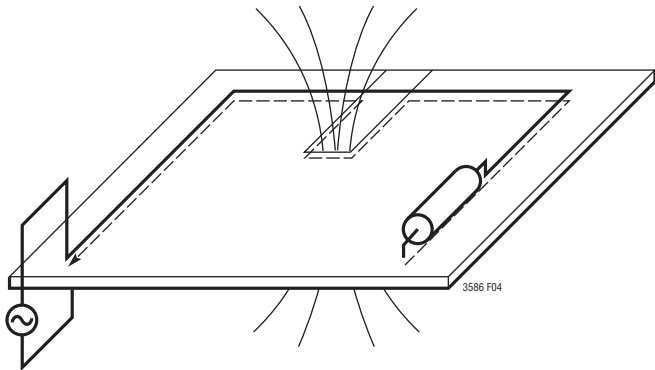

Figure 4. High Frequency Ground Currents Follow Their Incident Path. Slices in the Ground Plane Cause High Voltage and Increased EMI
2. To minimize parasitic inductance, the ground plane should be as close as possible to the top plane of the PC board (Layer 2). High frequency currents in the hot loop tend to flow along a mirror path on the ground plane which is directly beneath the incident path on the top plane of the board as illustrated in Figure 4. If there are slits or cuts or drill-holes in this mirror path on the ground plane due to other traces, the current will be forced to go around the slits. When high frequency currents are not allowed to flow back through their natural least-area path, excessive voltage will